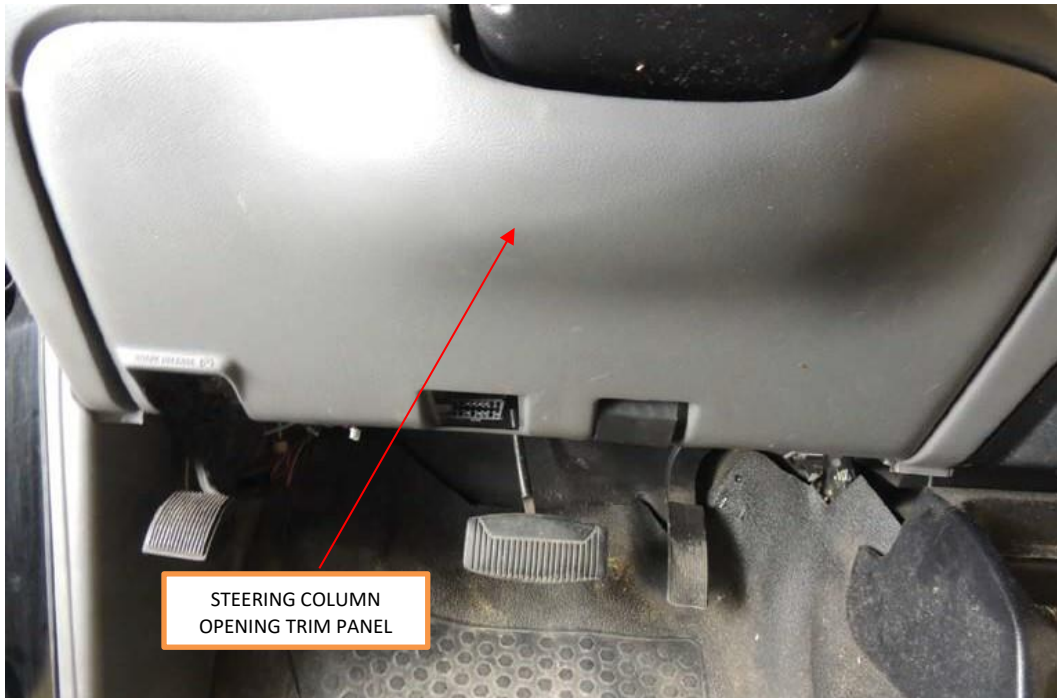

FIGURE 5
3. Remove the two lower steering column opening trim panel retainers. See Figure 5